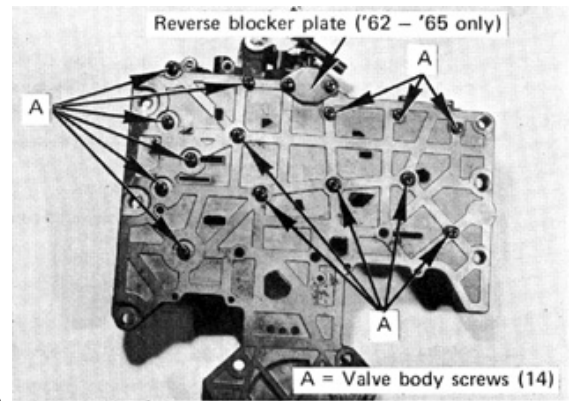
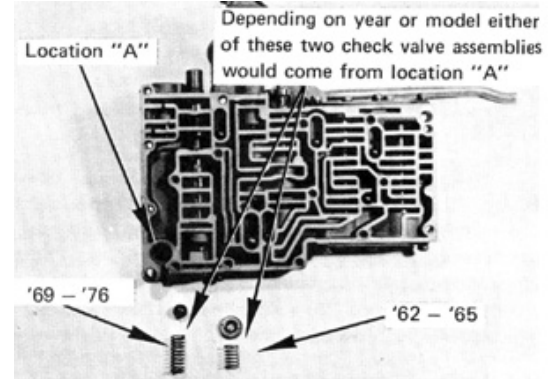
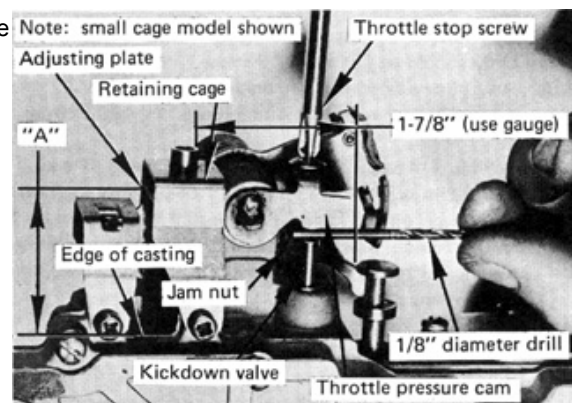

FIGURE 14
FIGURE 15
FIGURE 24
STEP 12. Set the valve body on the bench with the filter side up with the selector lever assembly in the top left corner. The valve body consists of: (1) a thick casting containing the valve bores and will be referred to as the **casting**; (2) a thin stamped steel plate with numerous different shaped holes called a **separator plate**, and; (3) a thin aluminum casting that looks like a maze called a **transfer plate**.
STEP 13. Valve Body Disassembly: (See Fig. 14)
STEP 14. Remove valve body screws from transfer plate. (See Fig. 14.) There will be 14 of them with either Phillips or slot heads. Hold the casting and **transfer plate** together with one hand while removing the last screw so you won't lose any internal parts. Carefully lift the **transfer plate** assembly off the casting to expose the oil passages. Turn the **transfer plate** assembly over so the **separator plate** is facing up and set it to your right. Inspect your **casting** for the following: (See Fig. 15.)
All valve bodies — There will also be five 1/4" diameter steel check balls and one 11/32" diameter steel check ball in the casting (see Fig. 15). Remove these and place them in the tray. '78 and later will have an additional 1/4" ball.
STEP 25. Tighten 14 screws attaching **transfer plate** to **casting** on the bottom of the valve body to 35-inch lbs. Tighten all end plate screws to 35-inch lbs. Adjust pressure regulator spring retainer cage from side to side until the distance from the manual valve to the adjusting screw is 1-7/8". Use the gauge supplied to check this measurement. (See Fig. 24.) Tighten three short retaining screws to 35-inch lbs. At this point all screws should be tight. '62-'65 — Install reverse blocker valve spring and valve with seal up. (See Fig. 14.) Rotate valve to engage **separator plate** properly. Install end plate and two short screws. Tighten to 35-inch lbs.
STEP 26. Throttle pressure adjustment: (See Fig. 24.) Place the valve body on bench and hold it on end so the throttle pressure assembly points up. Insert the 1/8" drill between the kick-down valve and the throttle pressure cam and adjust the throttle stop screw until it just touches the cam. Tighten jam nut. securely. (Note: Large cage models have no jam nut.)
STEP 27. Pressure Regulator Adjustment — Use the gauge to adjust the distance from the casting face to the inside edge of the pressure regulator spring adjusting plate. (See Fig. 24.) Use a 5/16" Allen wrench to adjust the plate to dimensions shown.